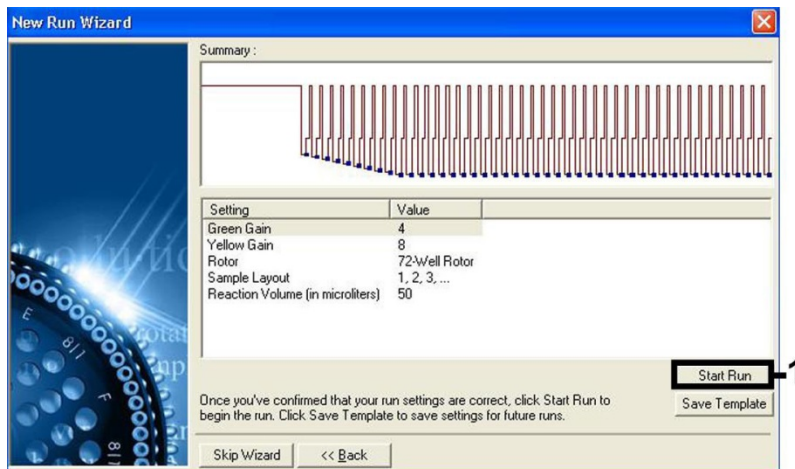

Figure 7. Starting the run.
The detection range of the fluorescence channels has to be determined according to the fluorescence intensities in the PCR tubes. Click **Gain Optimisation** in the **New Run Wizard** dialog box to open the **Auto-Gain Optimisation Setup** dialog box (see Step 6 and Figure 7 in the protocol sheet *Settings to run artus QS-RGQ Kits*).
- The gain values determined by the channel calibration (or manually assigned) are saved automatically and are listed in the last menu window of the programming procedure (Figure 7). Click **Start Run**.